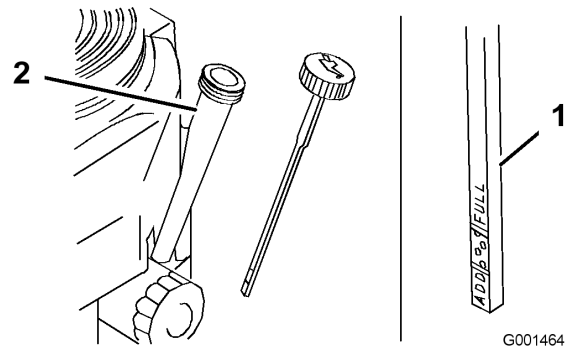

Figure 26
4. Clean around the oil dipstick (Figure 26) so that dirt cannot fall into the filler hole and damage the engine.
5. Unscrew the oil dipstick and wipe the end clean (Figure 26).
6. Slide the oil dipstick fully into the filler tube, but do not thread onto tube (Figure 26).
9. Slowly pour approximately 80% of the specified oil into the filler tube (Figure 26).